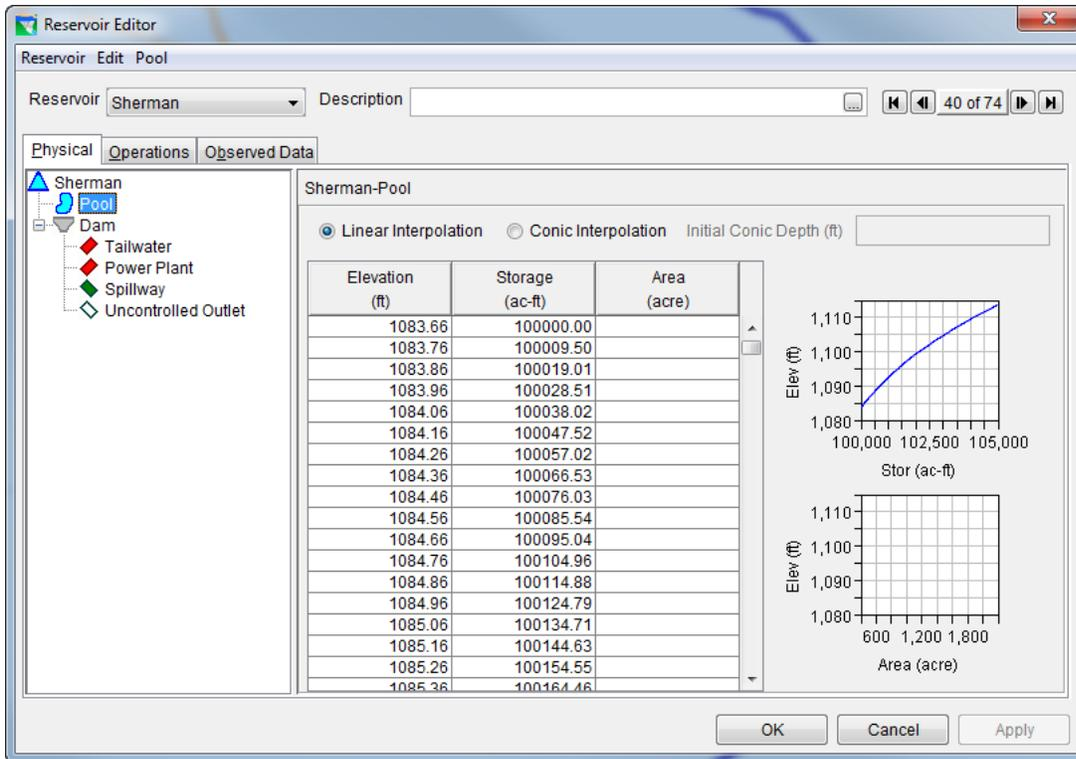
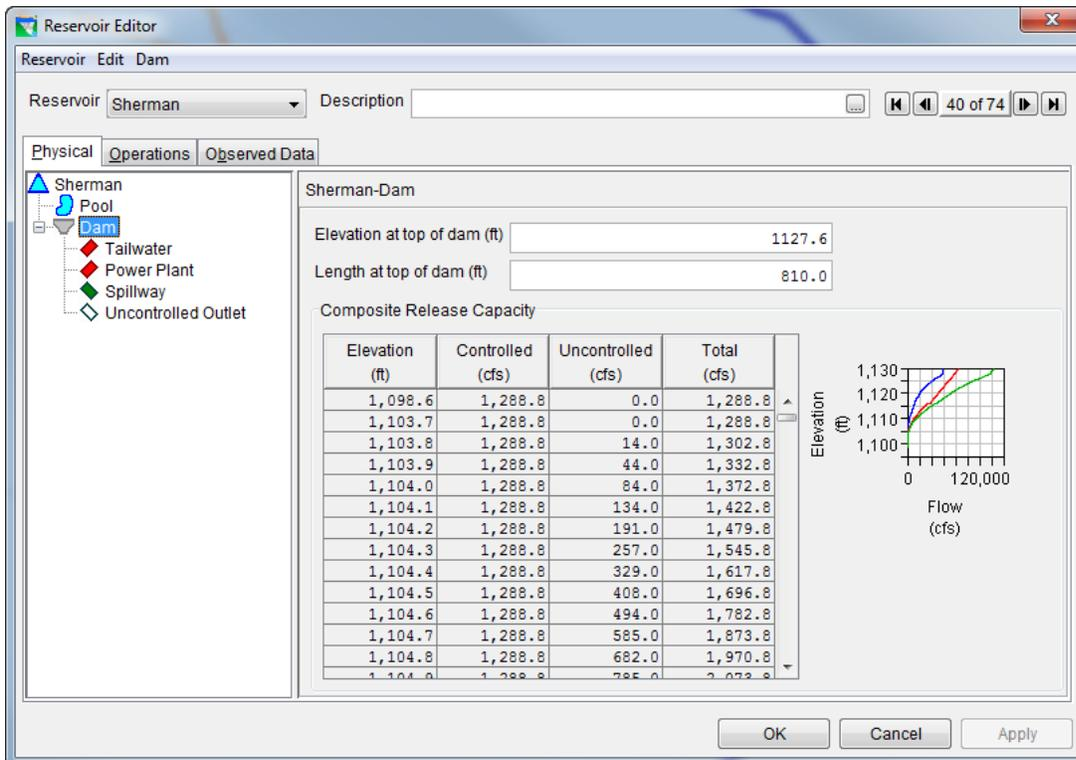

Figure 3: Reservoir Editor: Physical Tab -- Pool
Figure 4: Reservoir Editor: Physical Tab -- Dam
The physical characteristics of the reservoir are separated between the Pool and the Dam in the HEC-ResSim model. The elevation-storage-area defines the pool as shown in Figure 387. The dam consists of three types of outlets: (1) controlled spillway, (2) uncontrolled outlet, and power plant as shown in Figure 4.